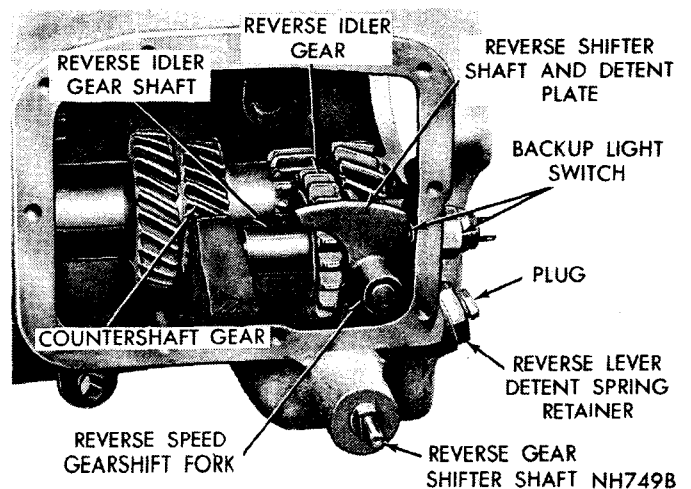

Fig. 22—Gear, Shaft, and Lever Identification
(1) Remove reverse gearshift lever detent spring retainer, gasket, plug, and detent ball spring from rear of the case (Fig. 22).